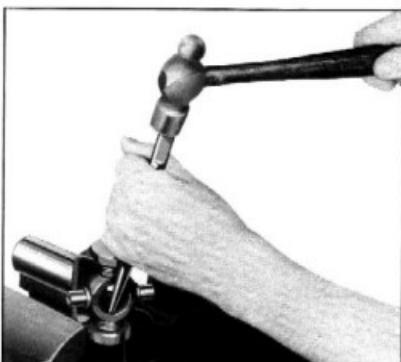

Fig. 40—Disassembly of Universal Joint
5. Remove the lock rings from the trunnion bearings and drive the caps from the yoke, using a drift punch in the center of the trunnion as shown in Fig. 40. After the trunnion has been driven down to the yoke, raise the trunnion and slip a flat washer $15/16$ " in diameter over the bearing. Again drive on the center of the trunnion until the bearing is free of the yoke. This method prevents cocking the bearing, which would result in damage to both the yoke and the bearing.